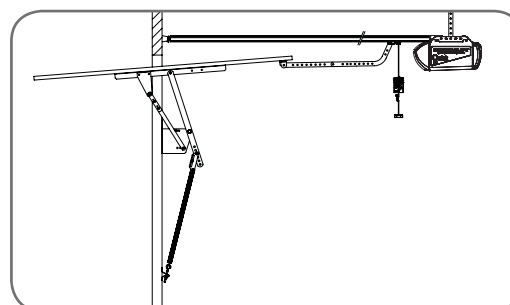

fig 25
- Assemble the bent and straight arms as shown in (**Fig. 25**) with bolts and nuts supplied in the accessory pack. Always use both the bent and straight arms.